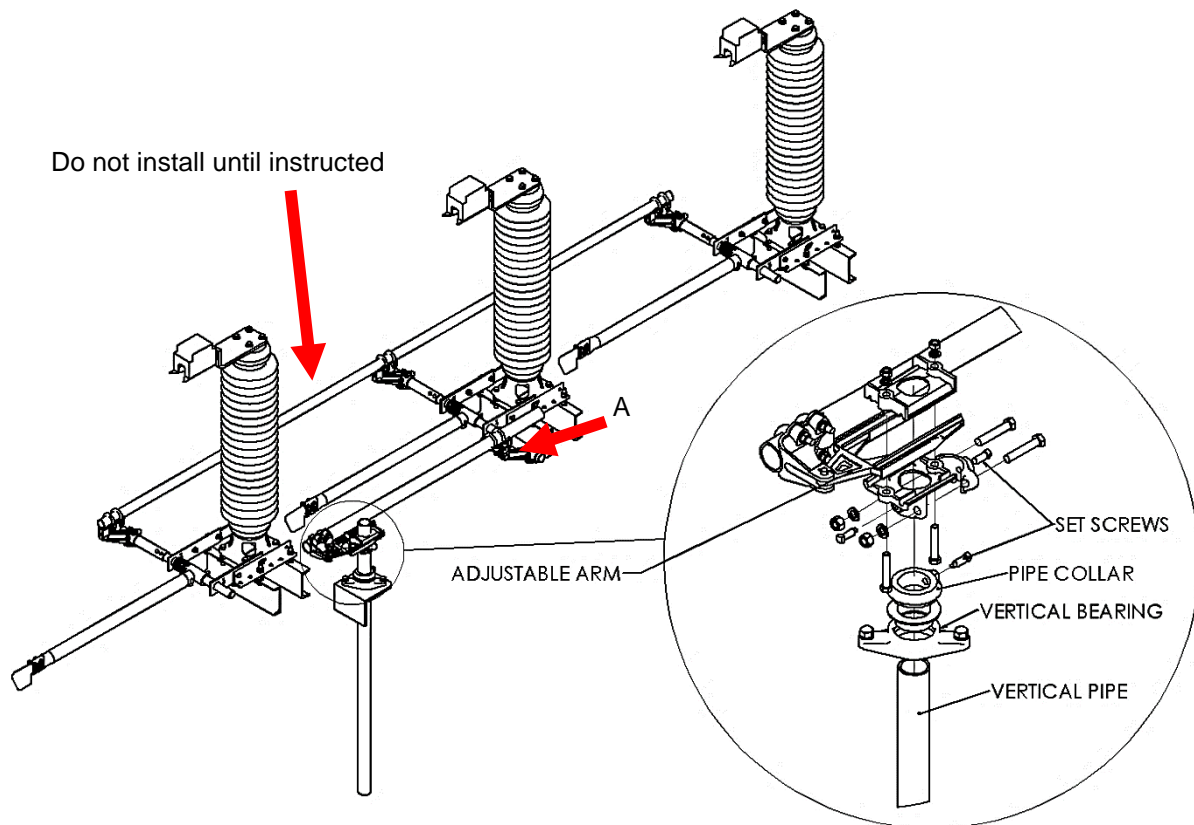
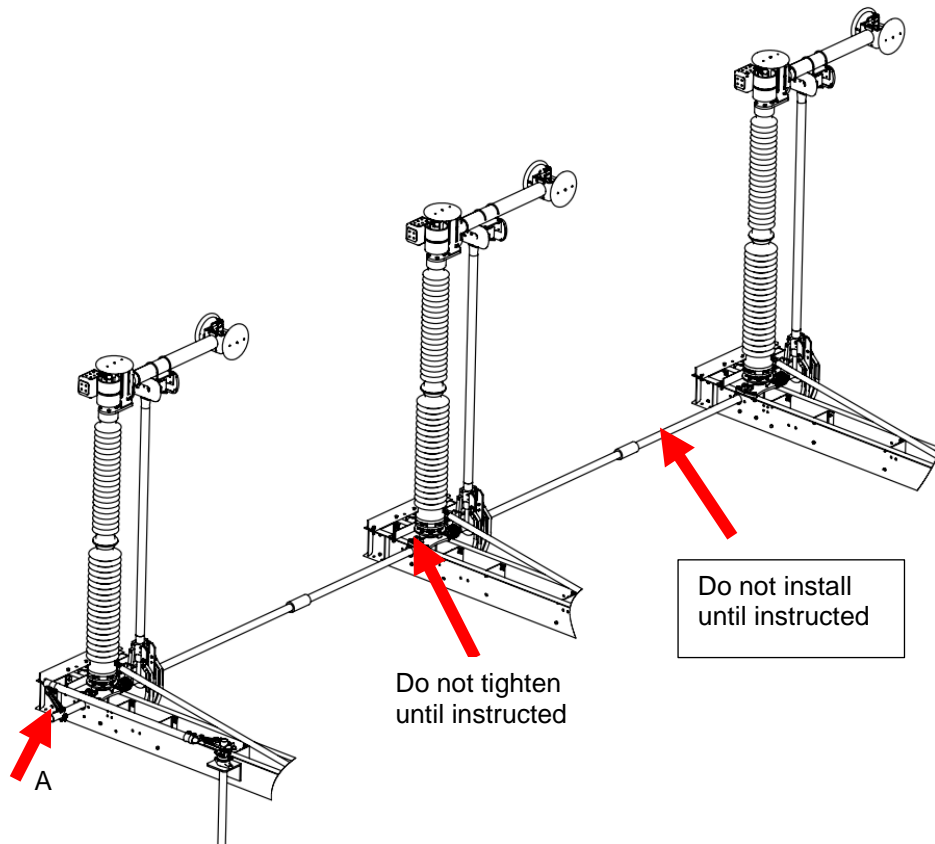

Figure 6: Perpendicular to the base
Figure 7: Parallel to the base
- 3.1.3. Depending on configuration, either parallel to the base or perpendicular to the base, use the sketch in **Figure 6** or **Figure 7** as a reference and the operating mechanism drawing for specifics and dimensions. Install mounting brackets, bearings, bushings, clevises, operating device, adjustable arm, vertical pipe and reach pipe only **DO NOT** install the interphase pipe at this time. Be sure to install any encircling member (such as key interlock, pipe guide, etc.) on the vertical pipe at this time. NOTE: If the horizontal reach pipe connects directly to the interphase pipe you will have to install it at this time. Focus on adjusting the phase closest to the vertical pipe first, once adjusted properly adjust the remaining phases.
- 3.1.3.3. If provided, pay close attention to the dimensions shown on the drawings for the initial setup of the lever drive arm shown on the drawings (marked with an "A" in the figures 6 & 7).
3.2.2.1. For perpendicular arrangements similar to the one shown in **Figure 6**, this is achieved by connecting the operating pipes to the driven phase only. Once adjusted, open the switch and connect the interphase pipe between all phases. Operate the switch and make adjustments if necessary.
3.2.2.2. For parallel arrangements similar to the one shown in **Figure 7**, this is achieved by connecting the operating pipes to the end phase only. Once adjusted, open the switch and connect the interphase pipe between all phases. Operate the switch and make adjustments if necessary.
3.2.2.3. For parallel arrangements similar to the one shown in **Figure 7**, but with the horizontal drive pipe between two phases, this is achieved by installing the interphase pipe and coupling between the outside phase and the center phase, ensuring the pipe is fully inserted into the hinge shaft for support. Connect the interphase to one switch only by tightening the connection between the pipe and hinge shaft. Once adjusted, open the switch and connect the interphase pipe between all phases. Operate the switch and make adjustments if necessary.